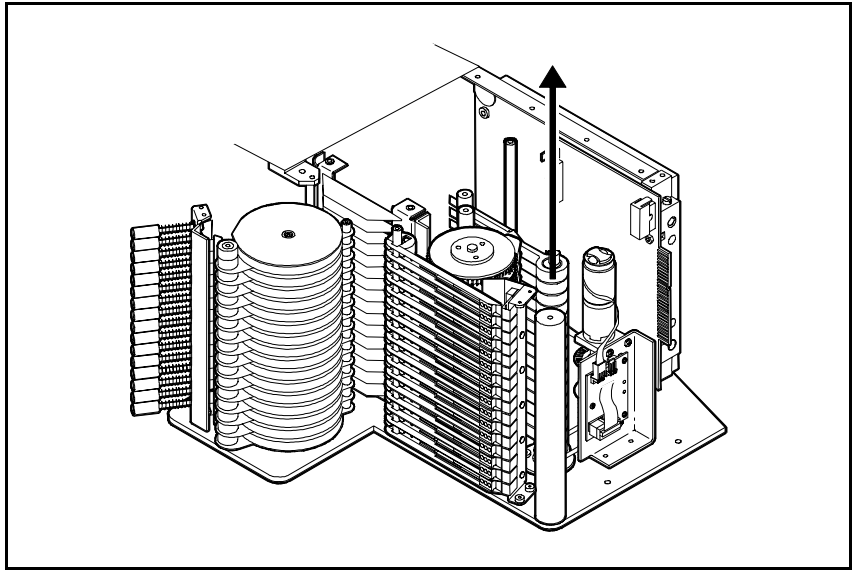

Figure 6. Removing feeder arms
14. Lift the 16 feeder arms and the 15 washers straight up from the shaft (see the arrow in Figure 6).